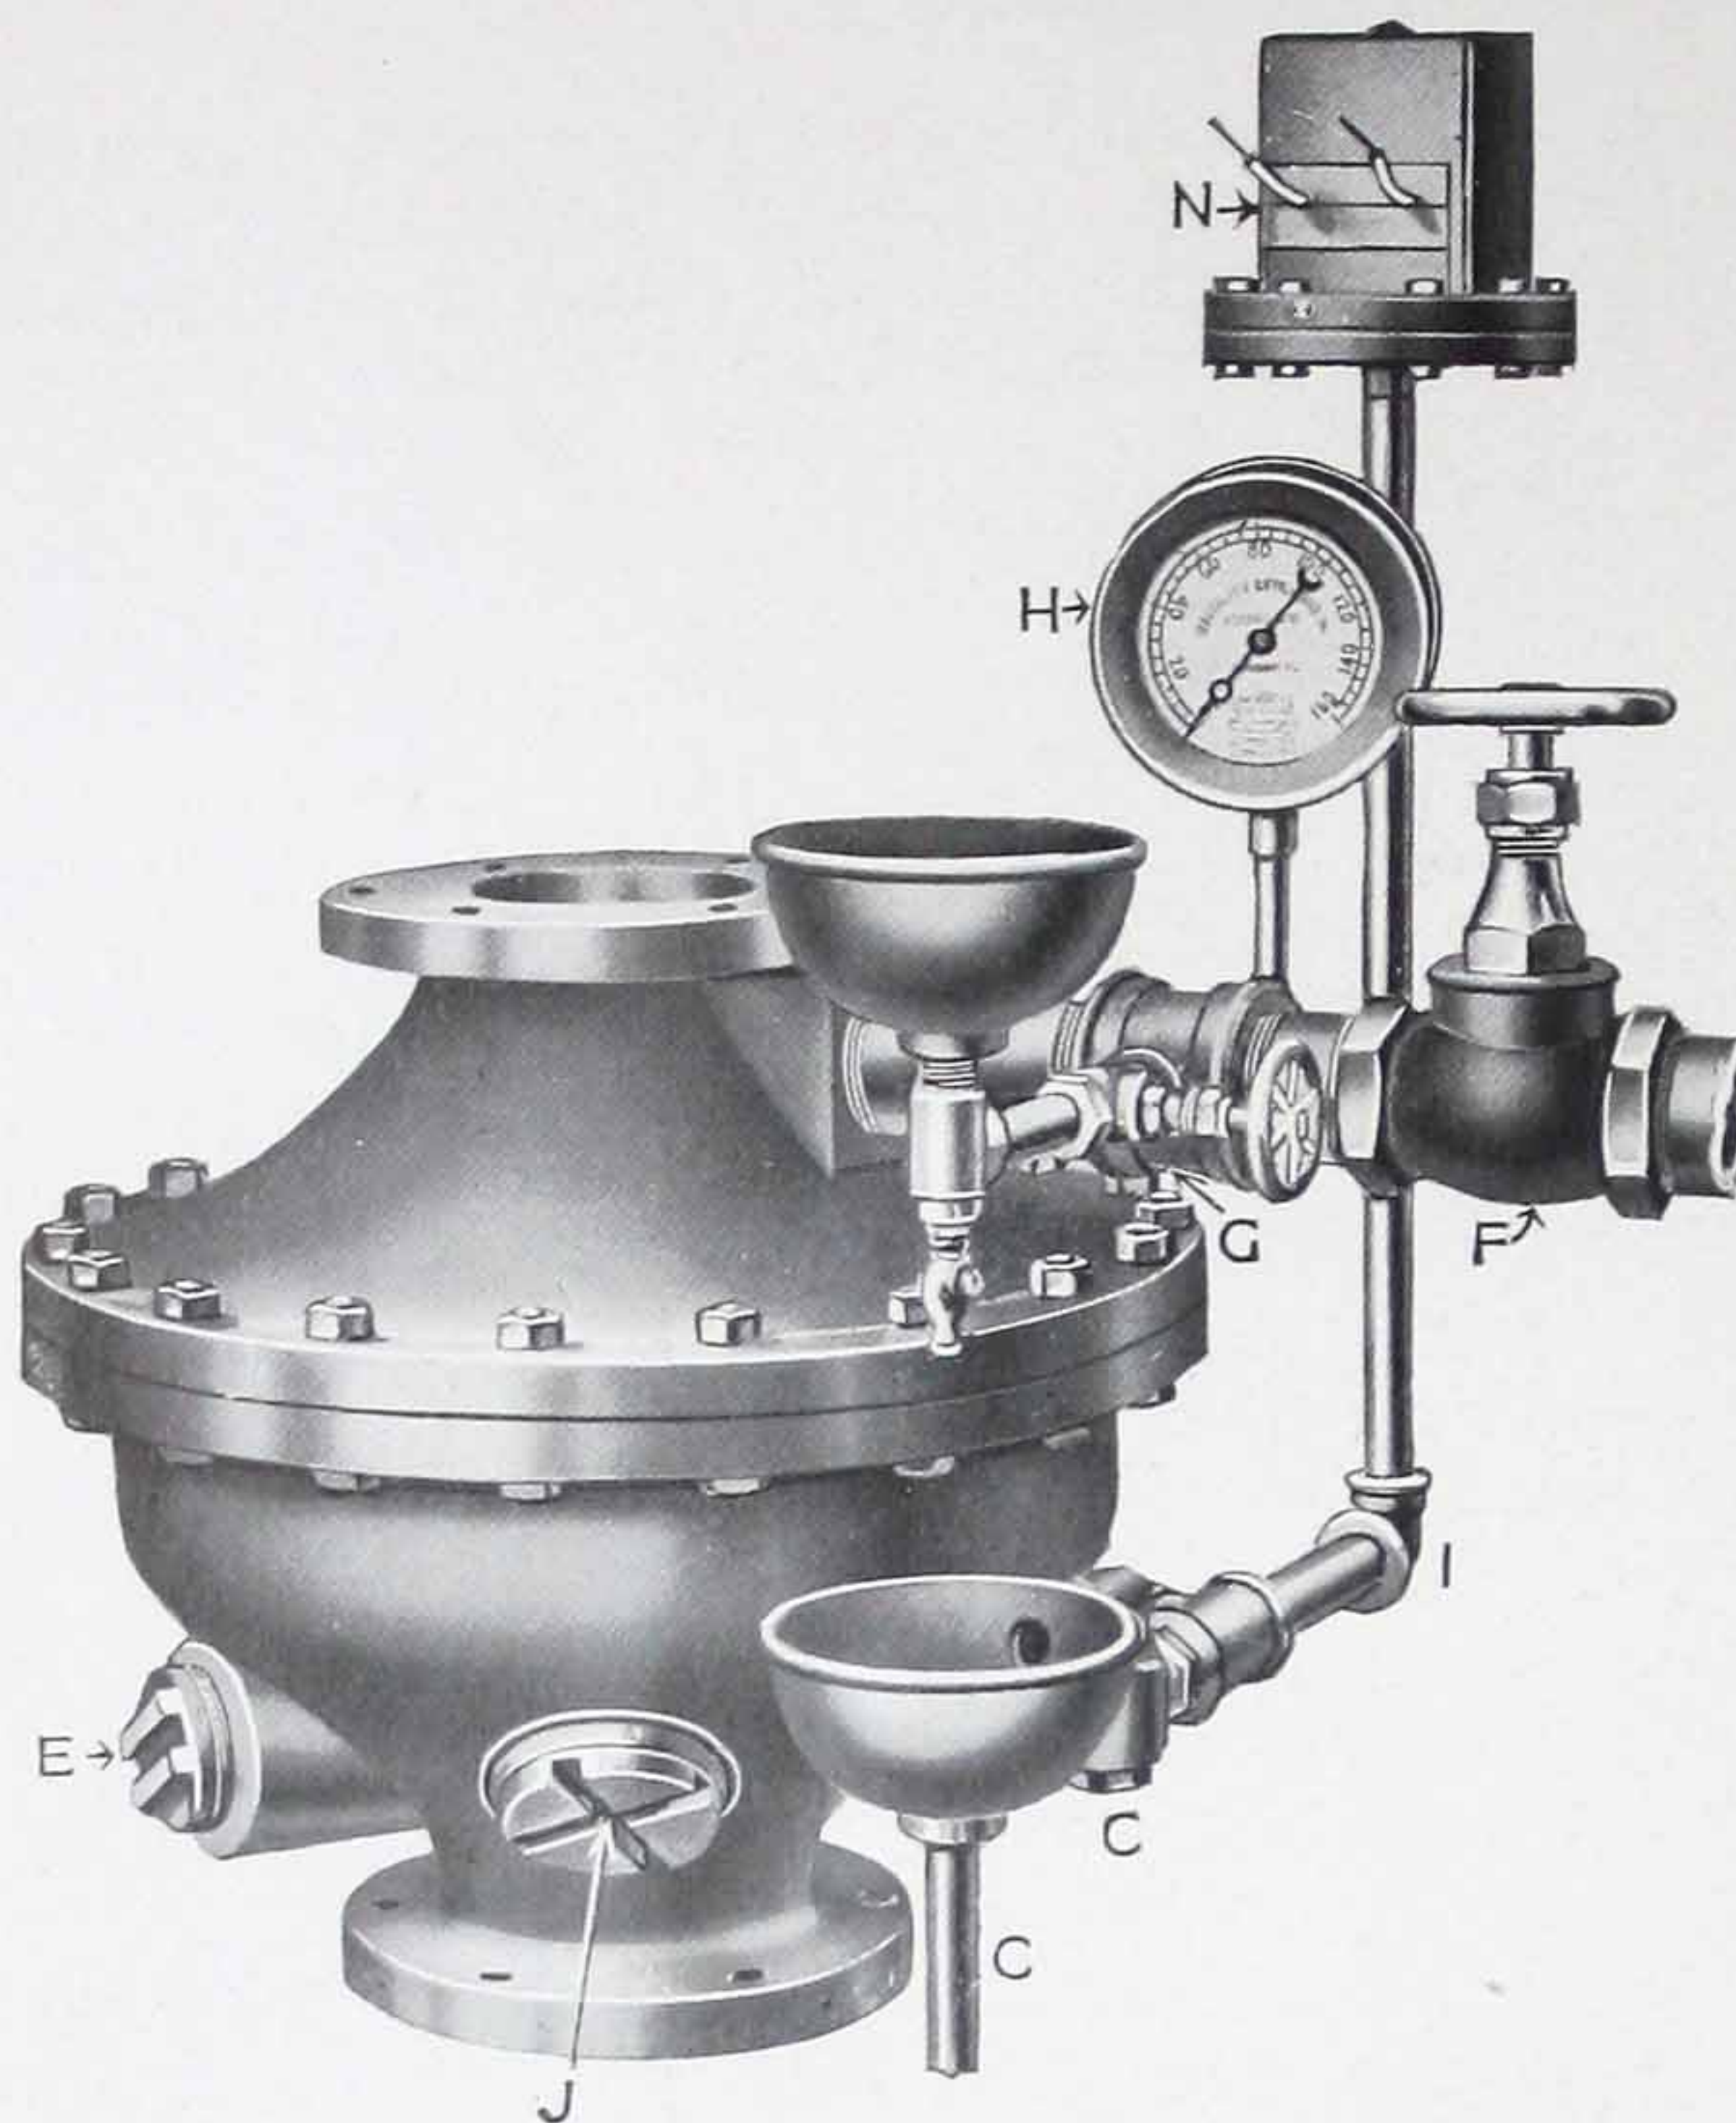

Fig. 1
- C—(Figs. 1, 2) Drip Check Valve, so constructed that it allows any slight leakage of water past the Valve A to flow out through the Drip Pipe C, and is automatically closed by the pressure of water in the intermediate chamber between Valves A and B, when the Valve A opens.
- E—(Fig. 1) Plug for access to Latch D.
- F—(Figs. 1, 2) Draw-off Valve and Pipe for emptying the entire system of water after Dry-Pipe Valve has tripped.
- G—(Fig. 1) Valve used for the purpose of
- H—(Fig. 1) Pressure Gauge to indicate the pressure of air in the sprinkler system.
- I—(Fig. 1) Pipe which connects the intermediate chamber between Water Valve A and Air Valve B to an Electric Circuit Closer N. When the Valve A opens, the full water pressure enters through the pipe I to the Circuit Closer N, and the pressure upon a flexible diaphragm closes a circuit and sounds a continuous electric alarm. Or, the pipe I may be connected to a Water Motor Alarm described with other types of Dry-Pipe Valves.
- J—(Figs. 1, 2) Hand-Hole Plug for access to Valves A and B.
- N—(Fig. 1) Electric Alarm Circuit Closer.
In case, however, water either through accident or through the operation of sprinklers in a fire, should get into the dry side of the system, the system should be emptied and the Valve reset as follows: Close the main Gate Valve in the supply pipe, after notifying the Insurance Interests that same is to be closed, and after stationing a man at the Valve until it is reopened. Then open the Draw-off Valve "F," figure 1, and do not close it until water has ceased to run. Then open Drain Valves and Vents throughout the system.
Pull out the Latch "D" and hold it out by placing a rod through the ring at the end of the Latch. Then hold the Valve "A" firmly to its seat and fill the Dry-Pipe Valve Body with water above the Valve "B," doing this by means of Valve "G," Figure 1, through the priming cup shown just above Valve "G." Then close Valve "G" and pump up a few pounds of air pressure.